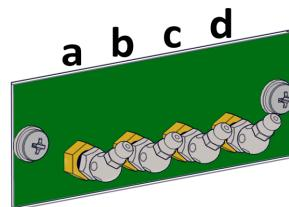

Figure 31 - Greasing Panel
1. Locate the greasing panel (Figure 31).